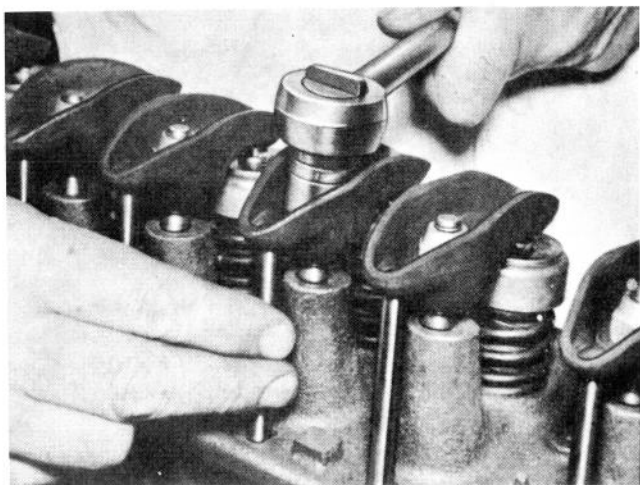

Figure 62
c. Back out adjusting nut until lash is felt at the push rod then turn in adjusting nut until all lash is removed. This can be determined by checking push rod end play while turning adjusting nut (Figure 62). When play has been removed, turn adjusting nut in one full additional turn (to center lifter plunger).